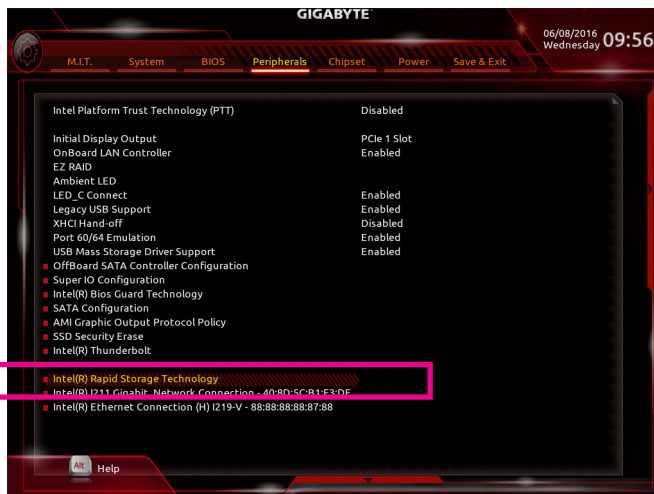

Figure 7
After the system reboot, enter BIOS Setup again. Then enter the **Peripherals** \ **Intel(R) Rapid Storage Technology** sub-menu (Figure 7).